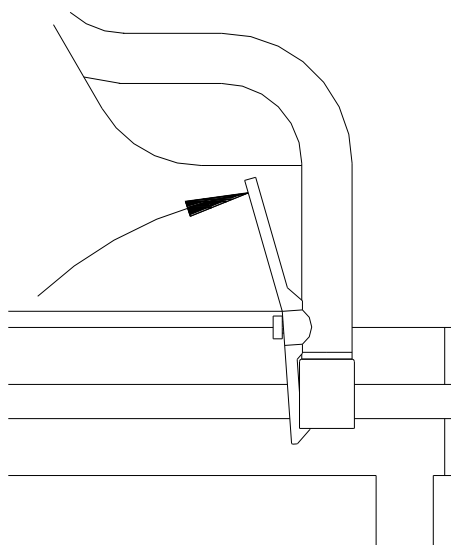

Figure 9
- If you choose a wheelchair fitted with a rear tilt armrest, hold the front end of the armrest as you tilt it backwards, and lightly push the armrest locking handle with your index finger, and the armrest can be tilted backwards; when the armrest is restored, tilt it forwards, the armrest lock is inserted on the jack in the frame, and the handle is automatically reset and locked (see Figure 9).